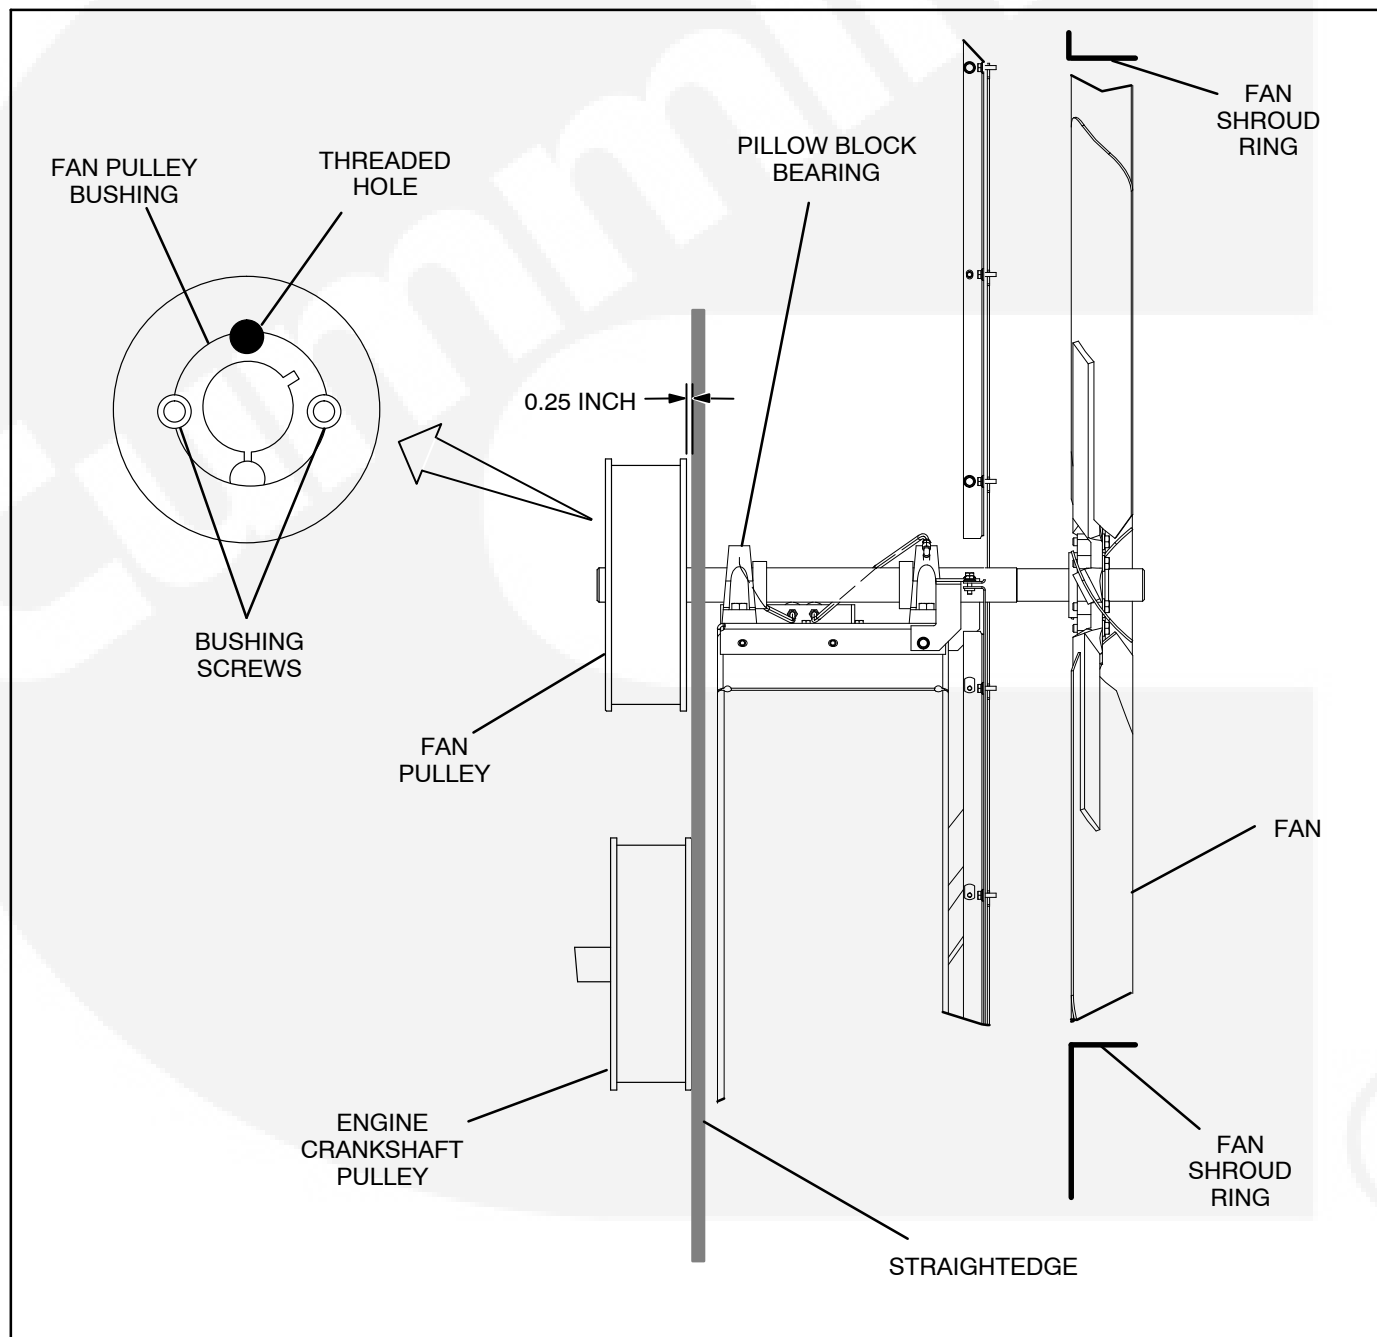

FIGURE 9-2. FAN DRIVE PULLEY ALIGNMENT
4. 5. Check the alignment using a long straightedge (not supplied). The straightedge should be flat against the vertical surface of the engine pulley near the center. See Figure 9-2. The fan drive pulley should be 0.25" nominal toward engine from straight edge.
- C. Remove the two screws from the fan pulley bushing. Install one of these screws into the threaded hole located between the two screws that were removed. (Figure 9-2). Tighten the screw to separate bushing from pulley and remove the screw.